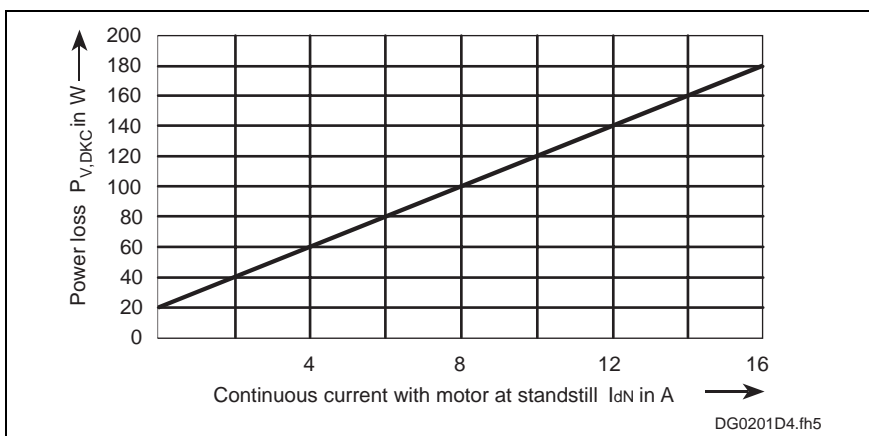

Fig. 10-1: Determining the power dissipated in the control cabinet
- ⇒ Using the  $I_{dN}$  value of the motor selected, find the value in the diagram in Fig. 10-1 for the current-dependent power dissipation  $P_{V,DKC}$ .